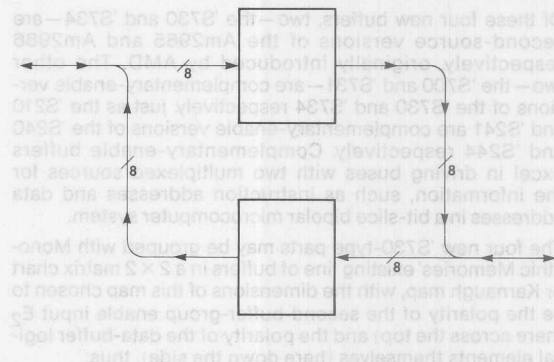

Figure 5A. Back-to-Back Configuration
- “Back-to-back” or “cross-coupled” (Figure 5A).